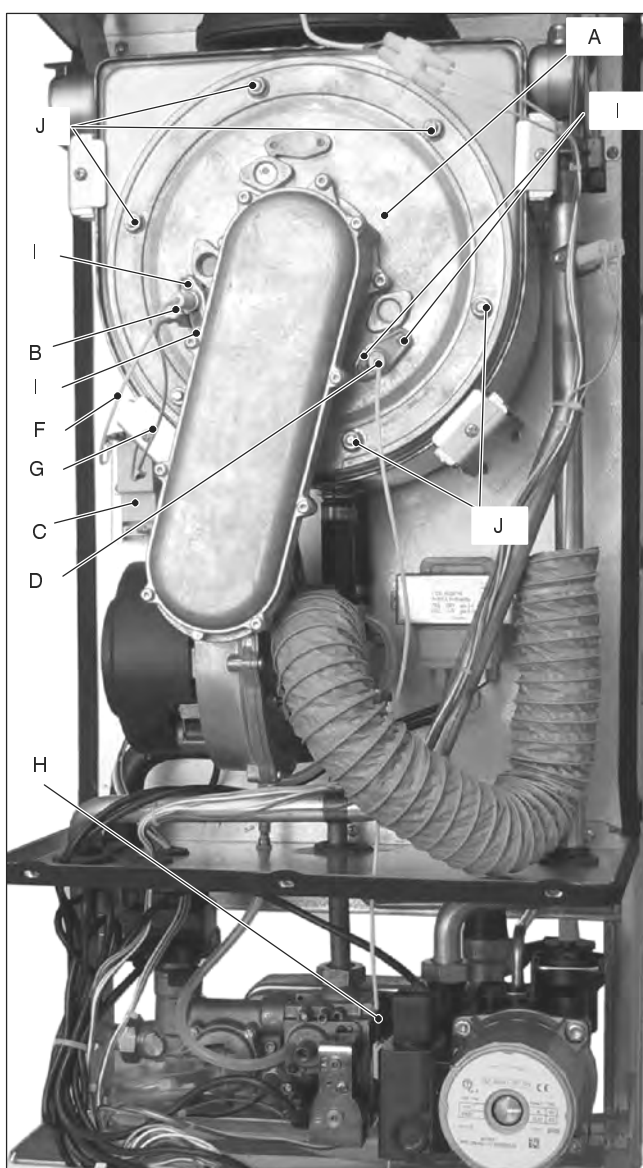

Fig. 18.1
- 2 Disconnect the ignition electrodes connector *F* and the earth wire *G* from the spark generator (Fig. 18.1) and disconnect the detection electrode connector *H*.
- 3 Unscrew the screws *I* and remove the ignition electrodes *B* and the detection electrode *D* (Fig. 18.1).
- 3 Unscrew the nuts *J* (Fig. 18.1)and remove the cover of the combustion chamber.
- 3 Unscrew the nuts *K* (Fig. 18.1)and remove the cover of the combustion chamber.